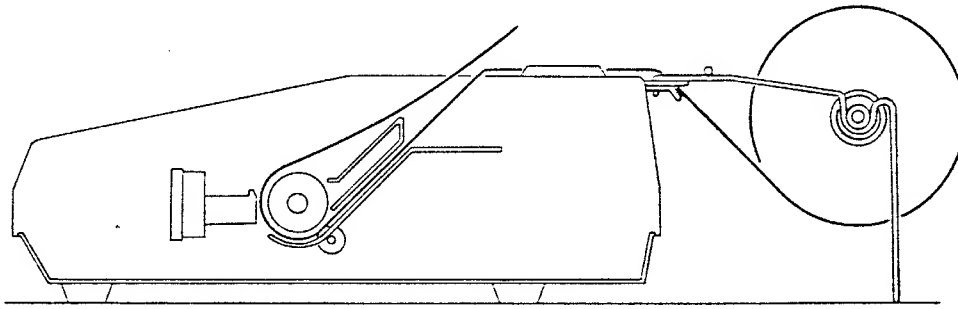

Figure 6. Roll Paper Feeding
4. Insert the Roll Paper Shaft through the standard 1" roll paper core. Place the Paper Shaft assembly onto the Holder so that the paper feeds from the bottom of the roll. (See Figure 6.)